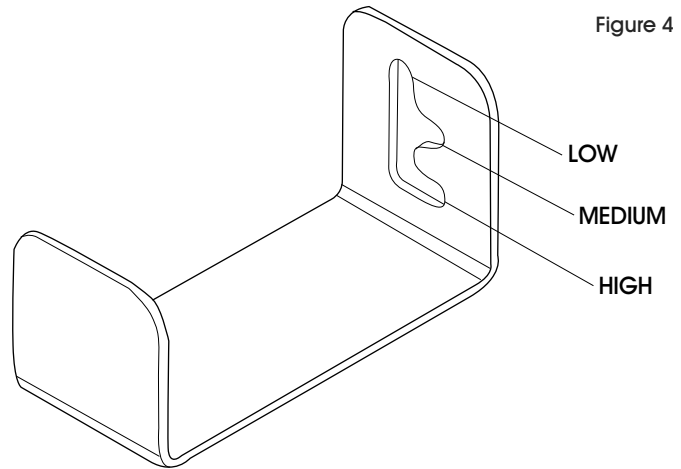

Figure 4
2. Move the water bottle brackets to a position that will obtain the desired water level in the brush tank. Both brackets should be in the same position. (See Figure 4)